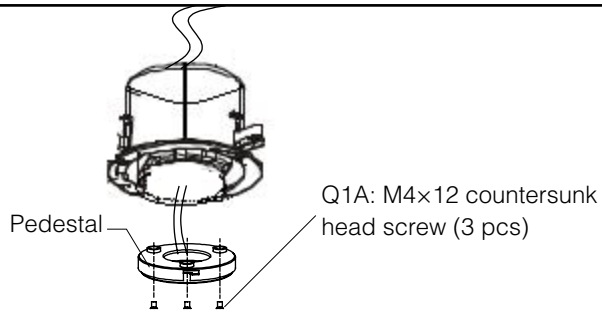

Figure 14
4) Fixup the "installation pedestal" with the embedded mount (reference Figure 14).